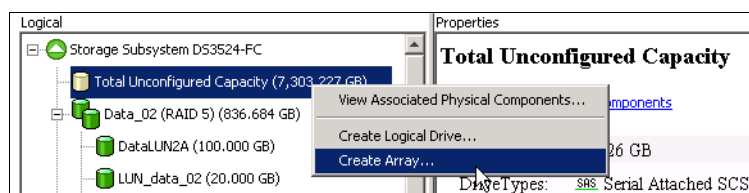

Figure 9-5 Create Array from Unconfigured Capacity
1. In the Logical pane (Figure 9-5), right-click the Total Unconfigured Capacity and select **Create Array**.